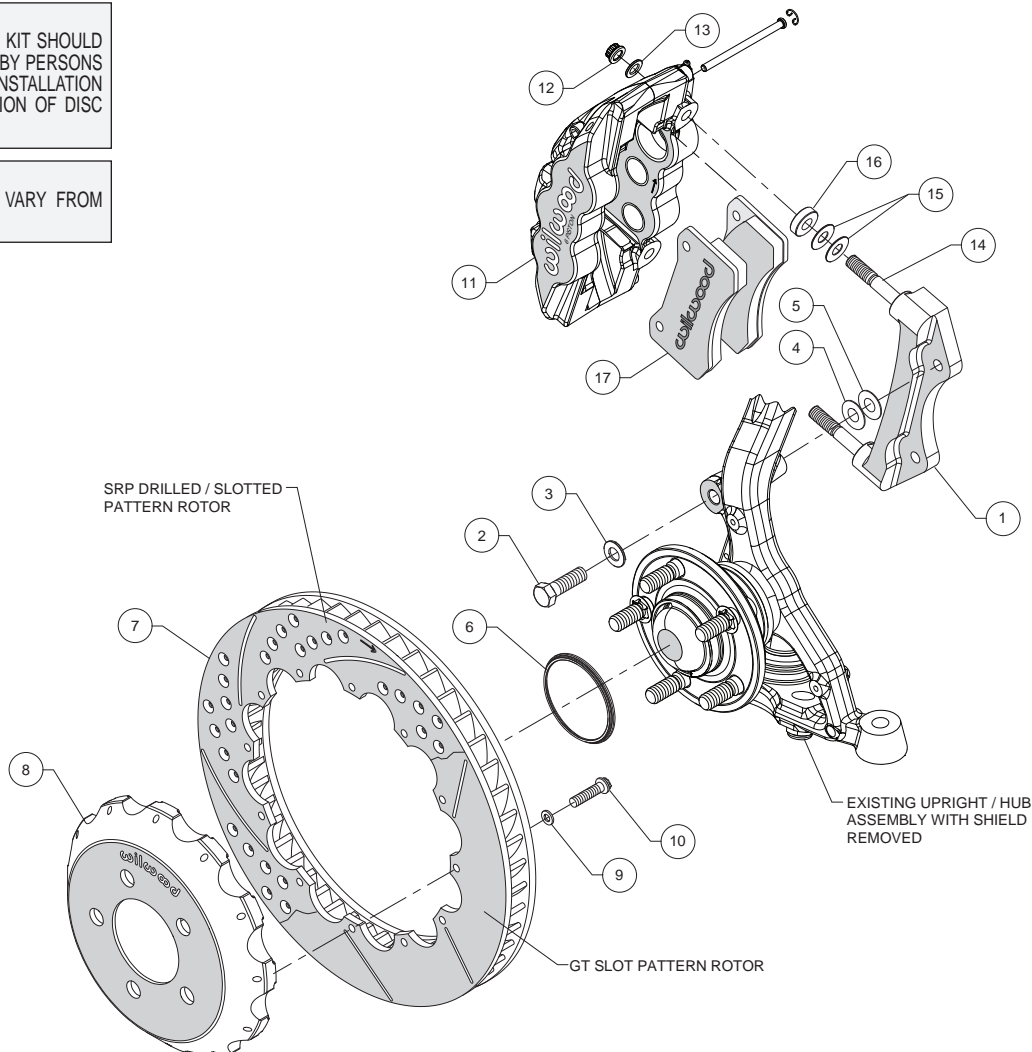
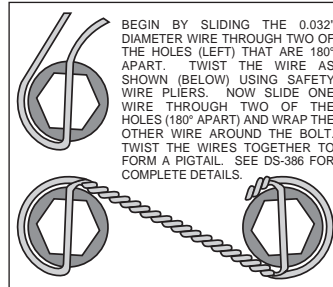

Figure 1. Typical Installation Configuration
Figure 3. Safety Wire Diagram
**Assembly Instructions** (numbers in parenthesis refer to the parts list and Figure 1 on the preceding pages):
- The caliper mount bracket (1) should initially be installed with clean, dry threads on the mounting bolts. Orient the bracket as shown in Figure 1 and Photo 1 and install using mount bolts (2) and washers (3). Initially place one each .033" thick shim (4), and .015" thick shim (5) on each bolt between the bracket and upright, Figure 1. Temporarily tighten the mounting bolts. **NOTE:** The bracket must fit squarely against the mount bosses on the upright. Inspect for interference from casting irregularities, machining ridges, burrs, etc. Later, after the caliper alignment has been checked, the mount bolts will be secured using red *Loctite*® 271.
- Orient the rotor (7) and the hat (8) as shown in Figure 1 and Photo 2. Attach rotor to hat using bolts (10) and washers (9). Using an alternating sequence, apply red *Loctite*® 271 to the threads and torque bolts to 155 in-lb. For an added measure of security, the bolts may be safety wired using standard 0.032 inch diameter stainless steel safety wire as shown in Figure 3. Please refer to Wilwood's data sheet DS-386 (available at [www.wilwood.com/Pdf/DataSheets/ds386.pdf](http://www.wilwood.com/Pdf/DataSheets/ds386.pdf)) for complete safety wire installation instructions.
- NOTE:** This kit contains distinct right and left hand calipers that must be mounted in a specific direction, as described below. Lubricate the caliper mounting studs (14) with lightweight oil. Initially place two .030" thick shims (15) and spacer (16) on each stud between the caliper and the bracket, as shown in Figure 1 and Photo 4. Mount the caliper (11) onto the bracket (1) using lock nuts (12) and washers (13), Figure 1. Temporarily tighten the lock nuts. Ensure that the caliper is mounted so the largest pistons are at the rotor exit end of the caliper, in relation to the direction of the rotor. View the rotor (7) through the top opening of the caliper. The rotor should be centered in the caliper, Photo 5. If not, adjust by adding or subtracting shims (4 and/or 5) between the bracket and the upright. Always use the same amount of shims on each of the two mounting bolts. Once the caliper alignment is correct, remove the bracket mounting bolts one at a time, apply red *Loctite*® 271 to the threads, and torque to 65 ft-lb.
- Remove the two pad retaining pins from the caliper (11) by carefully popping out the pin retaining clips and sliding out the pins. Insert the brake pads (17) into the caliper from the bottom, Figure 1 and Photo 6. With the friction material facing the rotor, secure the brake pads in place with the pad retaining pins and clips, Photo 7. Reinstall the caliper onto the caliper mounting bracket and temporarily tighten the lock nuts. Check that the top of the brake pad is flush with the outside diameter of the rotor, Photo 8. If not, adjust by adding or subtracting shims (15) between the caliper and the bracket. After the caliper pad height is set, torque the caliper lock nuts (12) to 47 ft-lb.